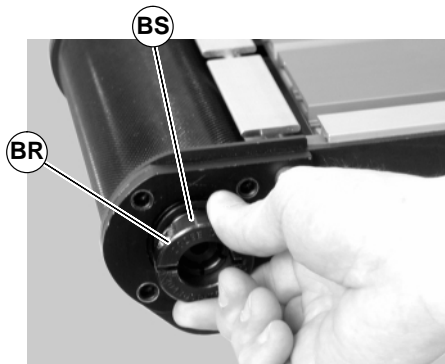
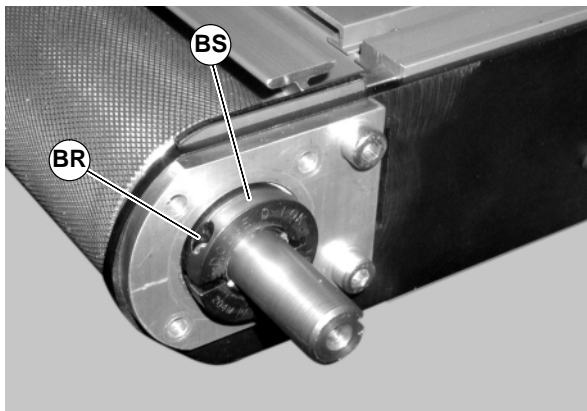

Figure 49
Figure 50
5. Loosen the bearing collar set screw (BR of Figure 49) and remove bearing collar (BS). Repeat on drive shaft side of pulley (BR and BS of Figure 50).